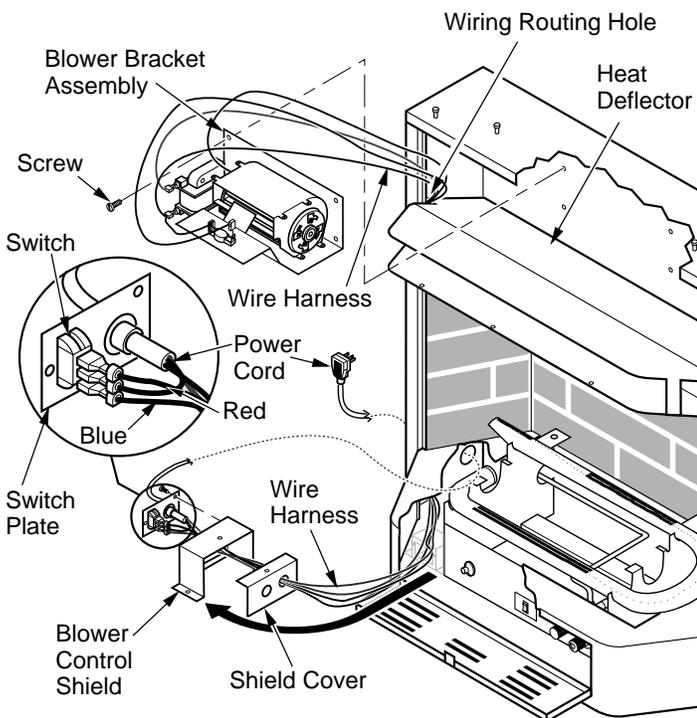
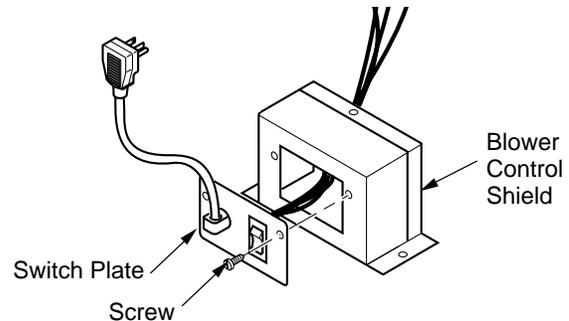

Figure 16 - Installing Blower Bracket Assembly
Figure 17 - Installing Switch Plate to Blower Control Shield
4. Note the wire locations on back of AUTO/OFF/ON switch. Carefully remove red wire from the AUTO terminal and blue wire from the ON terminal. Black wire can remain on the middle or OFF terminal (see Figure 16).
6. In top of the heater cabinet, locate the four mounting holes on the outer casing. Align these four holes with those on the blower bracket assembly. Attach blower bracket assembly to the outer casing with 4 - #10 screws provided (see Figure 16).
7. Route the wire harness through the hole to the left side of heat deflector. Pull wire harness through lower opening to the left of the blower control shield. (see Figure 16).
8. Insert the 4 wire harness into one of the round holes in the rear of the blower control shield and through the rectangular hole in the front of shield (see Figure 16).
10. Install the switch plate on the blower control shield with 2 - #10 screws provided (see Figure 17). Route power cord out of the cabinet by inserting it through the bushing on the outer casing (see Figure 16). Plug fan kit into 120-Volt grounded power supply and test operation. *Note:* When switch is in the AUTO position, the fan will start after the heater has run for a few moments. The fan will continue to run for several moments after the heater has been turned off. When switch is in the ON position, the fan will run until turned to OFF. Reinstall hood assembly and close lower louver door.